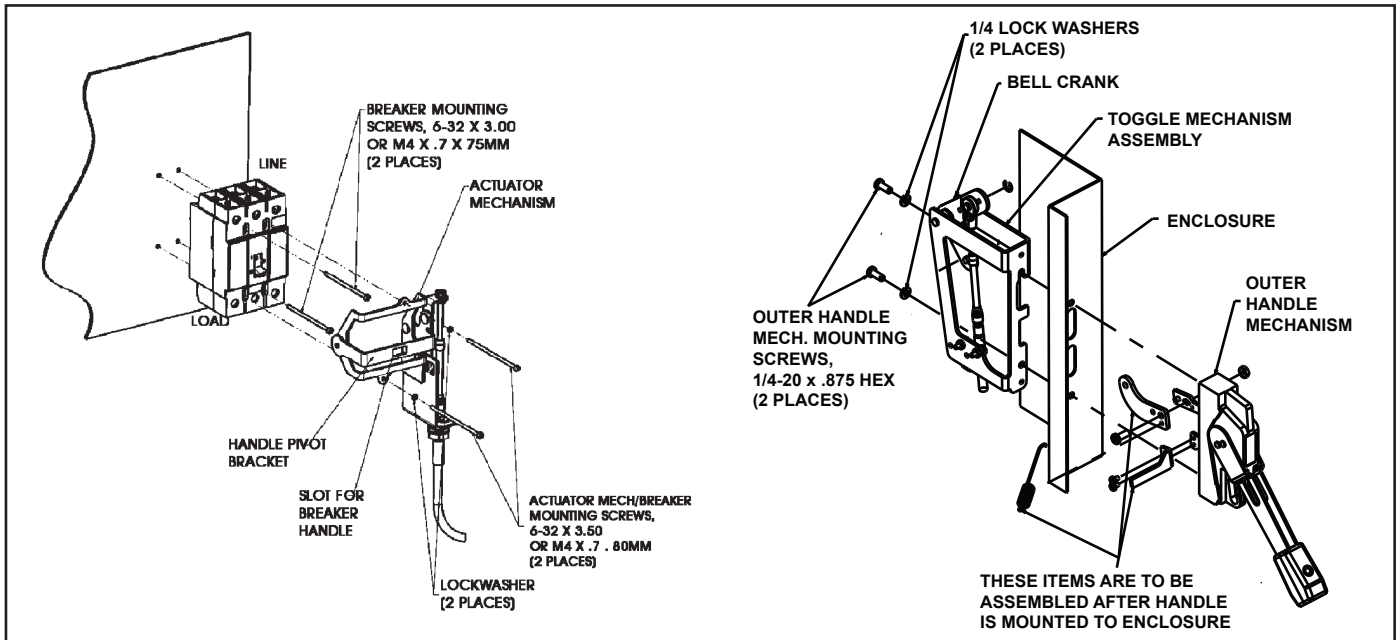

Fig. 1-1 Securing Actuator Mechanism to Breaker and Toggle Mechanism and Handle to Enclosure.
For assembly steps, refer to Fig 1-1, unless otherwise noted.
8. Remove and discard the two secondary cover screws shown in Fig. 1-1. Verify that breaker is in the trip position. Put outer handle mechanism in the trip position for ease of mounting actuator mechanism.
9. Place actuator mechanism around the front of the breaker (see Fig. 1-1). Orient handle pivot bracket so that the slot captures the breaker handle. Fasten securely with the two 6-32 x 3.50 actuator mech/breaker mounting screws and lockwashers, as shown.